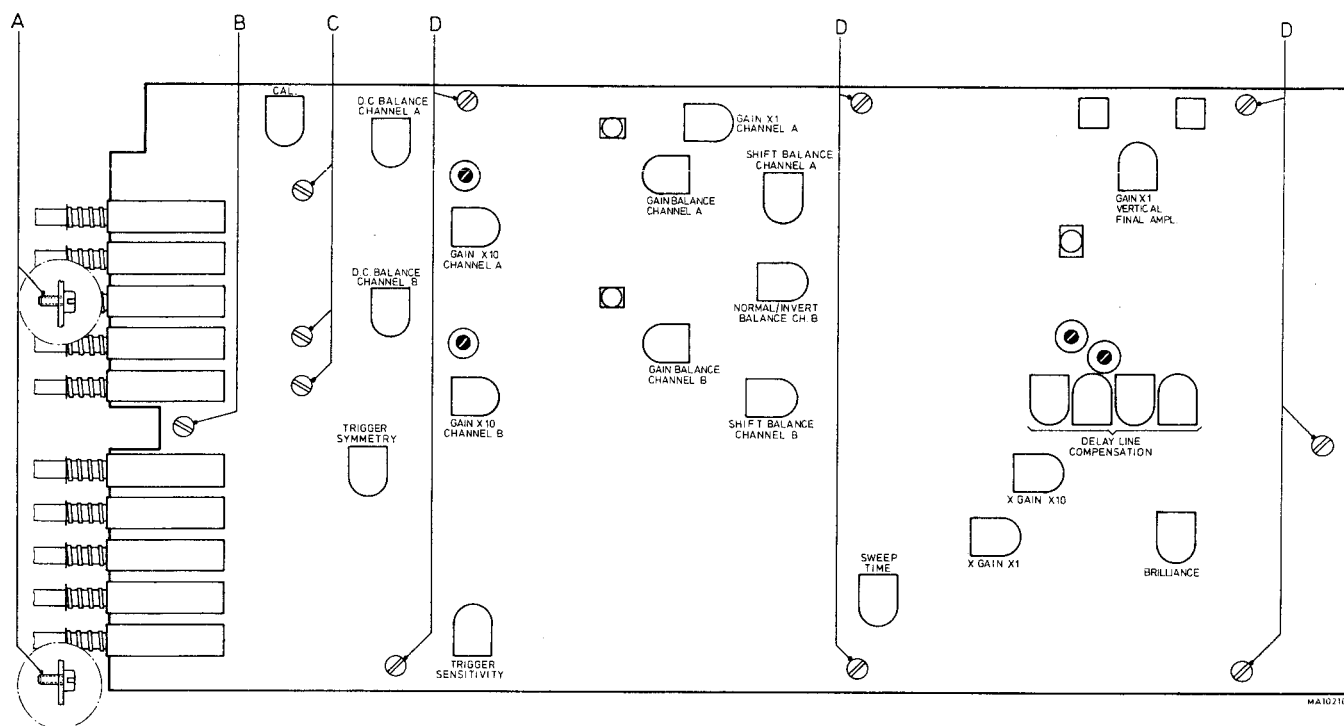

Fig.5.3. Removal of the amplifier board
- Remove the three screws A and B (Fig. 5.3.).
- Remove the three screws C (Fig. 5.3.).
- Remove the eleven retaining screws B, C and D (Fig. 5.3.).